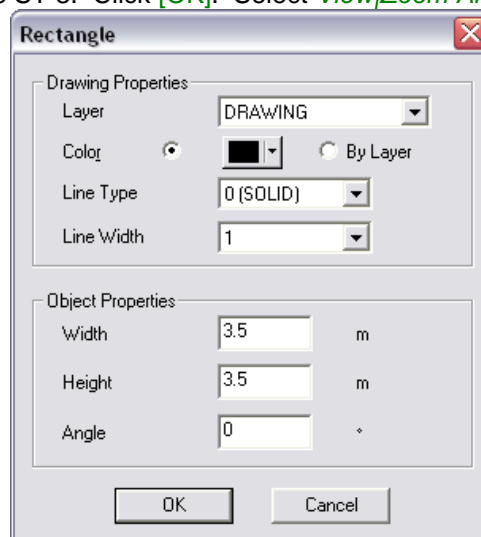

Figure ST 3
- Select *Modify|Change* and click on the boundary of the rectangle. In the dialog change the “Width” and “Height” to **3.5m** as in Figure ST 3. Click **[OK]**. Select *View|Zoom All* then *View|Zoom Out*.